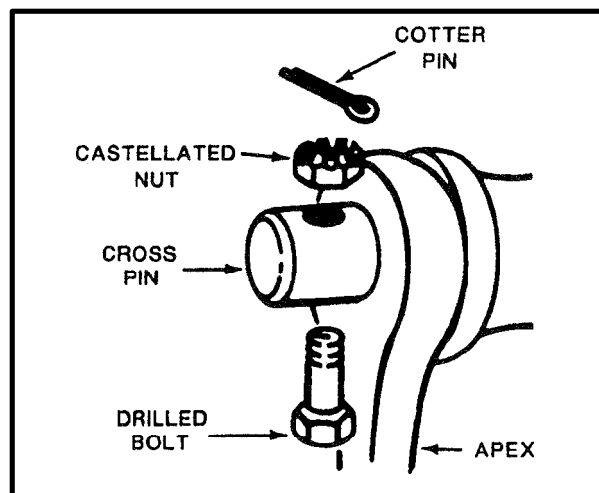

Figure 6-13. Bolt Assembly
- (1) Remove cotter pin and nut from the apex fitting pin bolt.
- (2) Remove the bolt from the pin (Figure 6-13).
- (3) Pull the pin and spacer out of the clevis.
- (4) Add or remove the sling legs as required.